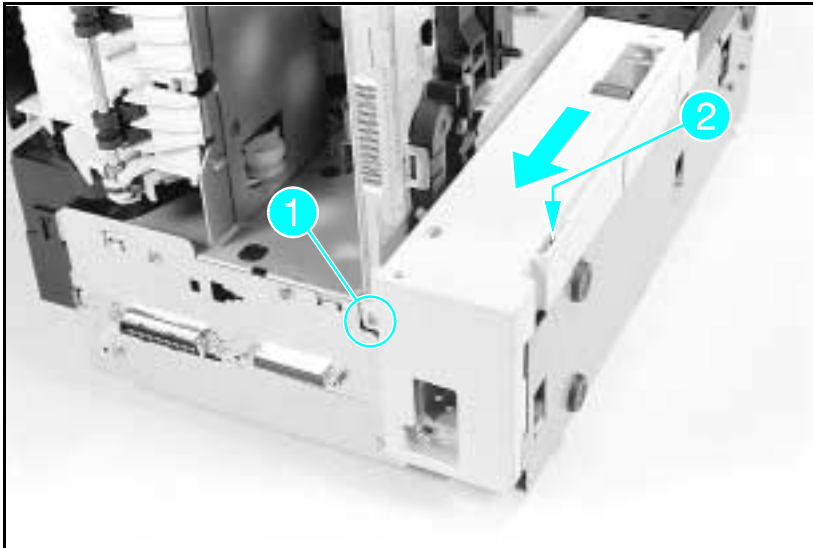

Figure 6-58 Right Side PC tray Rail Cover (printer on right side)
- 2 Remove the (1) screw from the right-side PC tray Rail Cover (see Figure 6-58, callout 1).
- 3 Release the latch (see Figure 6-58, callout 2), slide the Rail Cover to the rear of the printer and remove the cover.